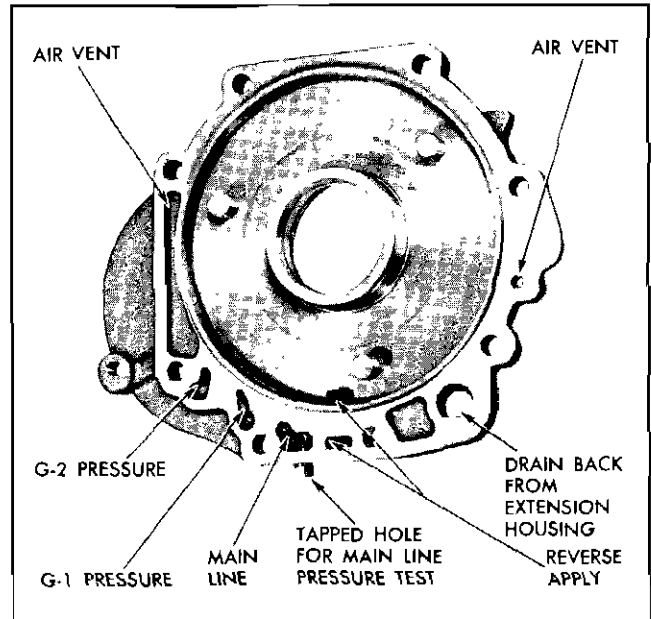

Fig. 126 Passages in Reverse Clutch Piston Housing
1. Check passages in reverse piston housing (Fig. 126) to see that they are not restricted or interconnected.